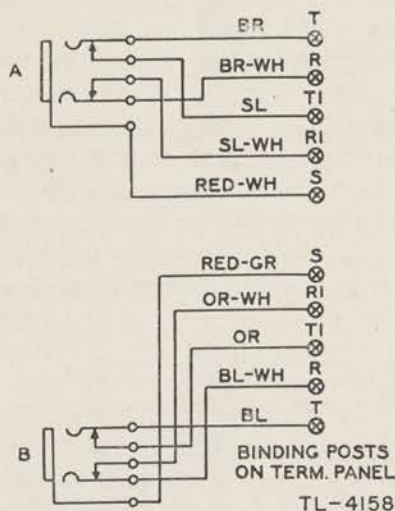

FIGURE 11.—Through line circuit.
**12. Through line circuit (fig. 11).**—This circuit is intended to be used for connecting two lines together to form a through line which normally is not to be used at switchboard BD-89-A. However, for test purposes the operator at this switchboard, by plugging a test cord into either of the cut-off jacks, may separate the two lines connected by this through line circuit. The operator may also use either of these two lines in the same manner as any other outgoing trunk circuits by plugging a cord into either of the cut-off jacks. Plugging into either jack disconnects the other jack and its line from the circuit. In the event that this circuit is to be used as an outgoing trunk circuit and is to be associated with common-battery circuits, ground should be connected to the binding posts designated *S* on the terminal panel. See paragraph 4*g* for method of connecting.